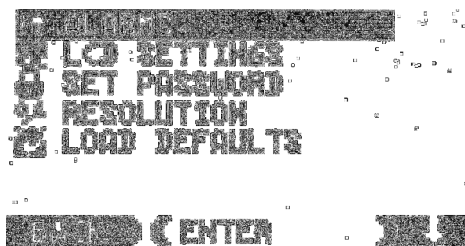
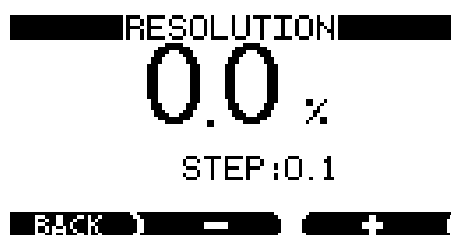

Figure 7: SETUP mode with Alarms selected Screenshot.
Figure 14: Resolution Screen
- 2iii) Press the right-hand navigator button to access the menu (Figure 7)
- 3iii) Press the right-hand navigator button to access the menu (Figure 7).
- 4iii) Press the right-hand navigator button to access the menu (Figure 7
The displayed resolution may be adjusted to suit different applications. From the SETUP menu (see Figure 7) using the down arrow button  select the RESOLUTION option and press the enter button. The display will change to look like the example in Figure 14: